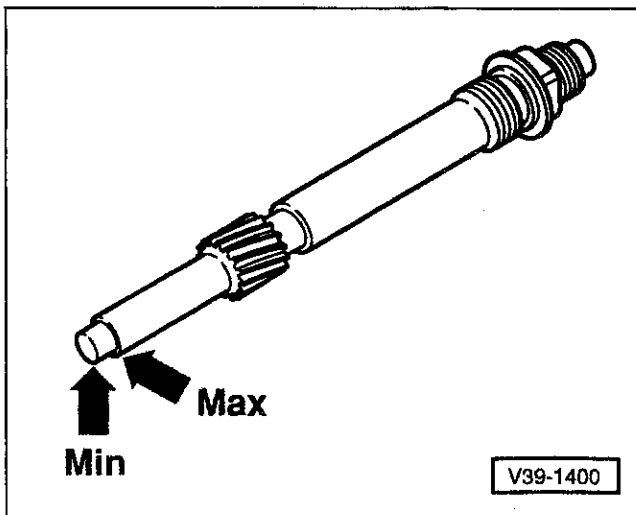

Fig. 16. Speedometer drive gear used to check final drive oil level. Level should be between **Min** and **Max** marks.
2. Clean speedometer drive gear using a clean cloth. Then install and remove speedometer drive gear to check the oil level. See Fig. 16.